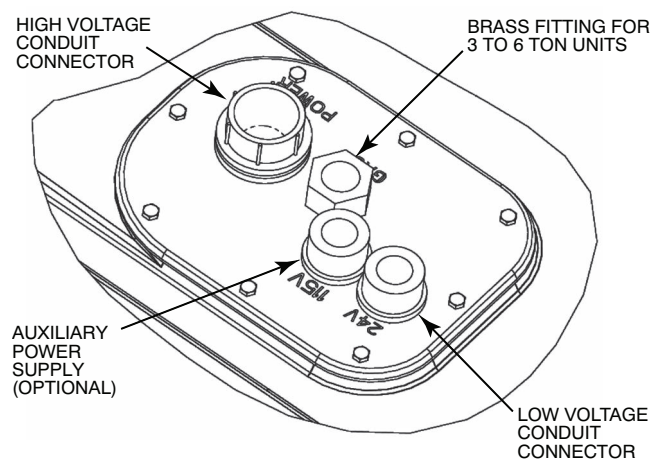

Fig. 18 — Thru-Base Connection Fittings
The 3/4-in. bulkhead connector enables the low-voltage control wires to pass through the basepan. The 1/2-in. bulkhead connector allows the high-voltage power wires to pass through the basepan. See Fig. 18.
- Place the gasket over the embossed area in the basepan, aligning the holes in the gasket to the holes in the basepan. See Fig. 18.